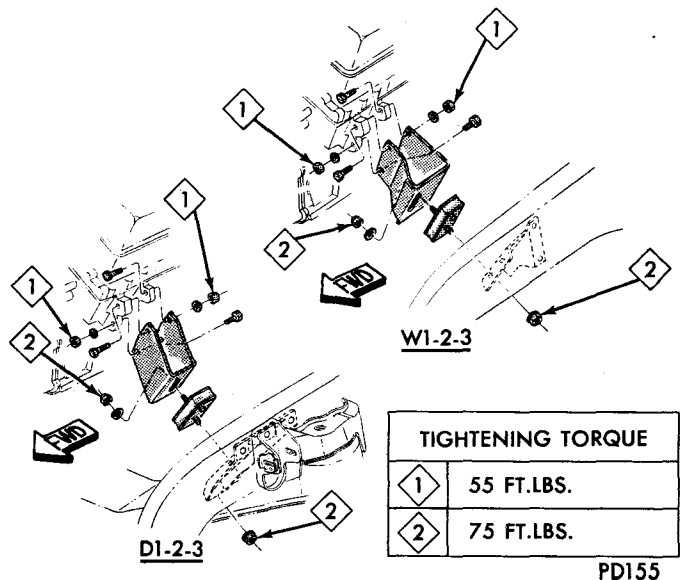

Fig. 1—Engine Mounts—Front—440 Cubic Inch Engine Models D100-200-300 and W100-200-300
- (1) Install engine lifting fixture to carburetor flange studs on intake manifold.
- (2) Attach a chain hoist or hydro-crane to fixture eyebolt.
- (3) Remove engine from repair stand and lower engine carefully until engine is positioned in chassis with front motor mount studs in place (Fig. 1).
- (4) Install engine support fixture Tool C-3487A (if